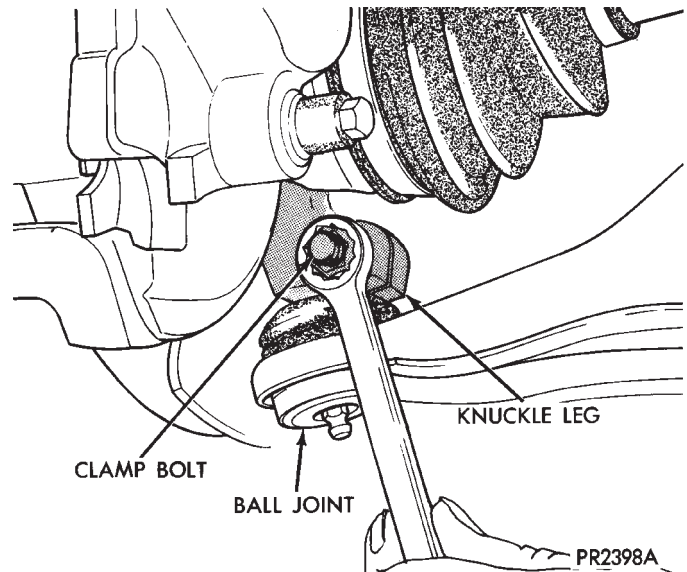

Fig. 5 Remove Ball Joint to Steering Knuckle Clamp Bolt
(2) Remove clamp bolt securing ball joint stud into steering knuckle (Fig. 5).